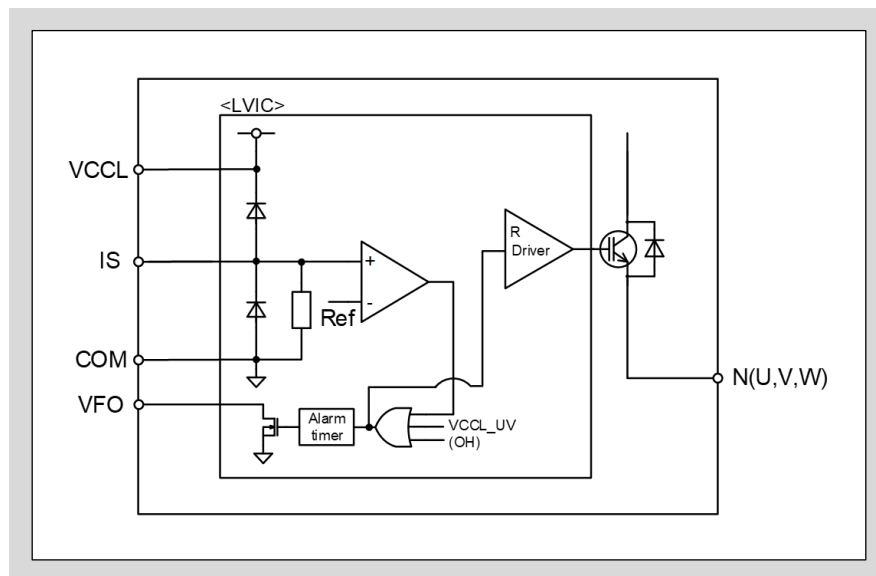
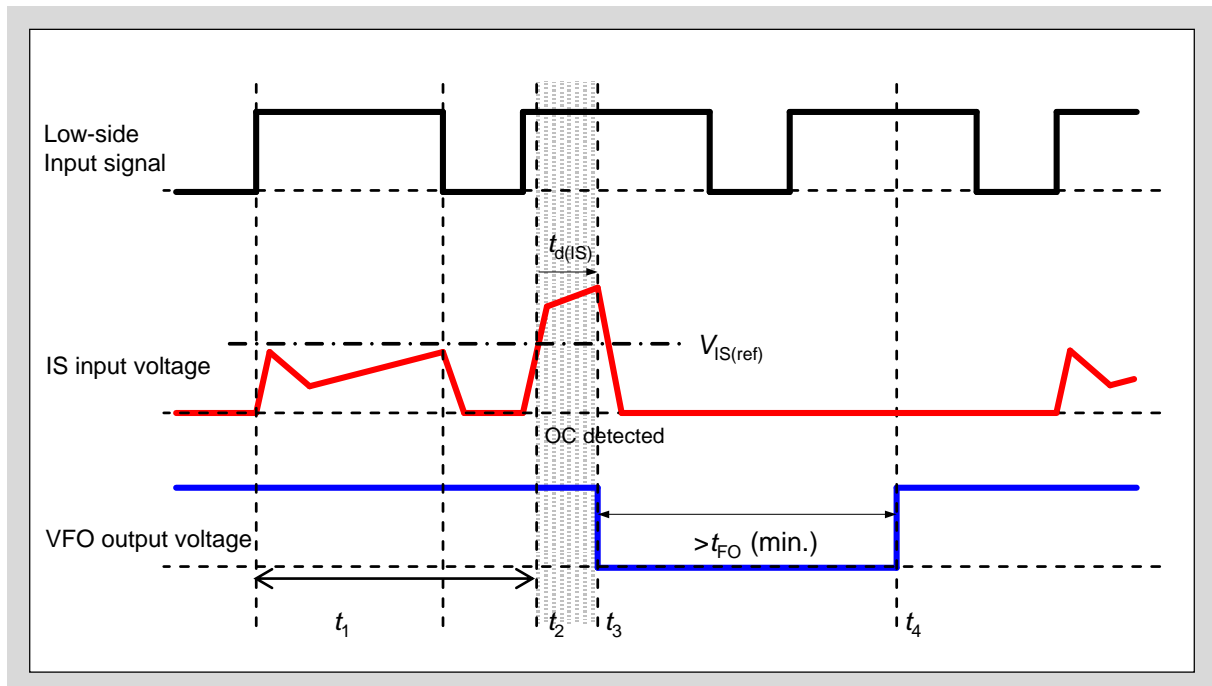

Fig.3-19 Over current sensing voltage input IS circuit
Fig.3-20 Operation sequence of Over Current protection
- Over current (OC) protection function works by detecting the voltage generated by the external shunt resistor connected between N(U, V, W) and COM at the IS terminal, turn off the IGBTs and output an alarm signal.
- Fig.3-19 shows the over current sensing voltage input IS circuit block, and Fig.3-20 shows the OC operation sequence.
- Fig.3-19 shows that the diodes in the product are connected to the VCCL-IS and IS-COM terminals. Do not use these diodes for voltage clamp purpose otherwise the product might be damaged.